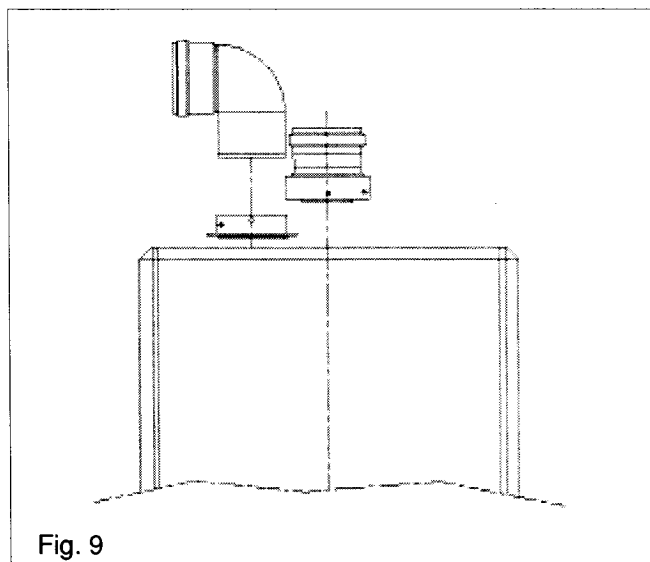

Fig. 9
4.5.3.1 INSTALLATION OF TWIN ADAPTOR KIT (see fig. 9)